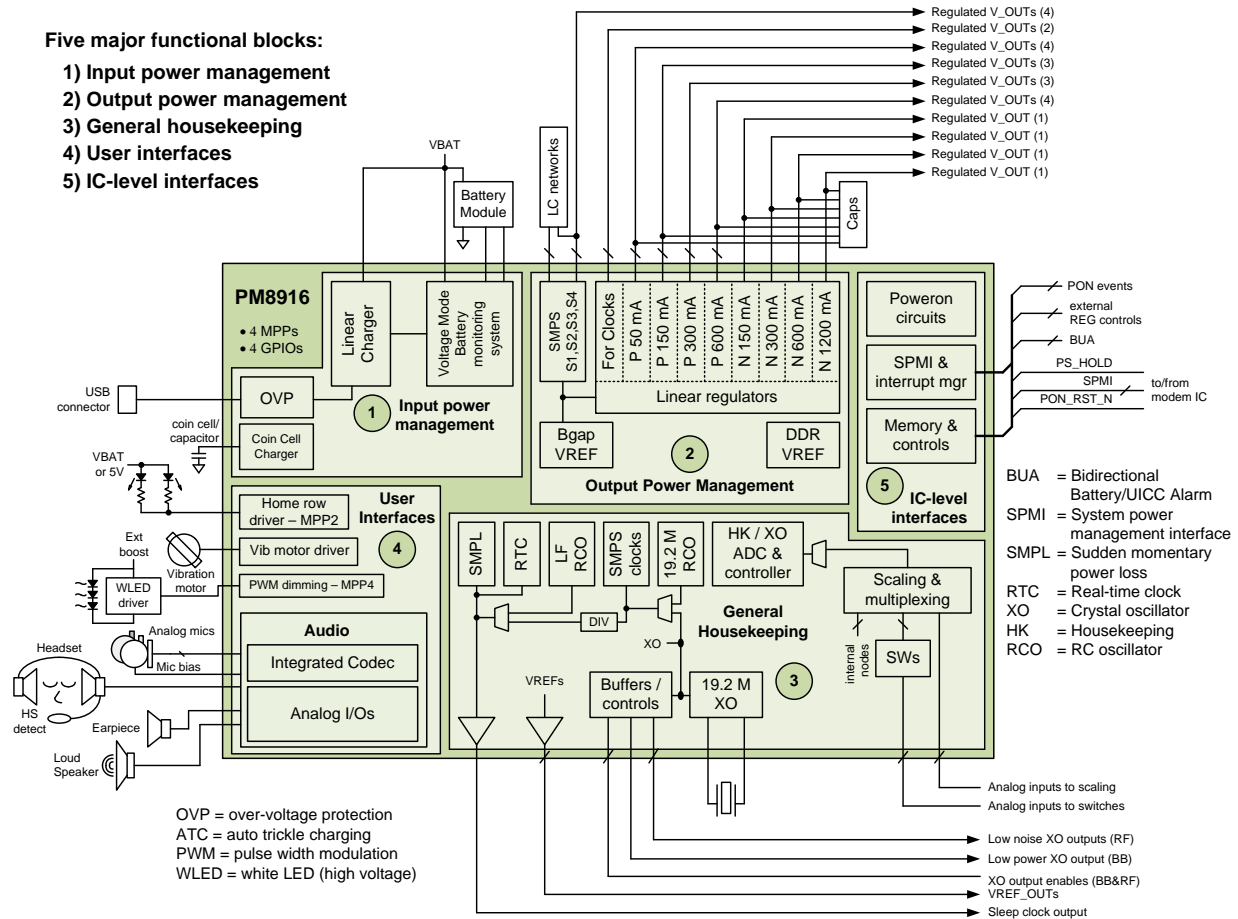

Figure 1-1 High-level PM8916 functional block diagram
The PM8916 device (Figure 1-1) integrates all wireless handset power management, general housekeeping, and user interface support functions into a single mixed-signal IC. Its versatile design is suitable for multimode, multiband phones, and other wireless products such as data cards and PDAs.
- Most of the information contained in this document is organized accordingly – including the circuit groupings within the block diagram (Figure 1-1), pin descriptions (Chapter 2), and detailed electrical specifications (Chapter 3). Refer to the *PM8916 Power Management IC Training Slides* (80-NK808-21) for more detailed diagrams and descriptions of the PM8916 device functions and interfaces.